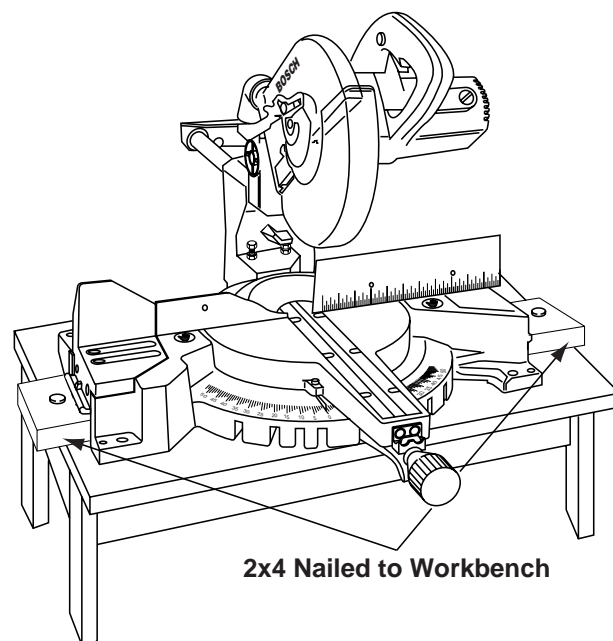

Figure 17. Portable Mounting Using 2x4's
- In order to avoid any twisting of the saw, the saw can be placed over (2) 2x4's mounted on a workbench.
- The cast-in carry handle openings have ribs on the inside that are the same size as a 2x4. Center the miter saw openings over the 2x4's which have been clamped or nailed on a workbench for stability (Figure 17).